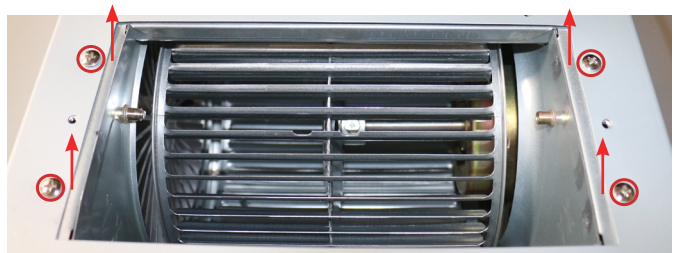

Figure 4
- Remove all 4 screws holding the blower casing. (Figure 4)